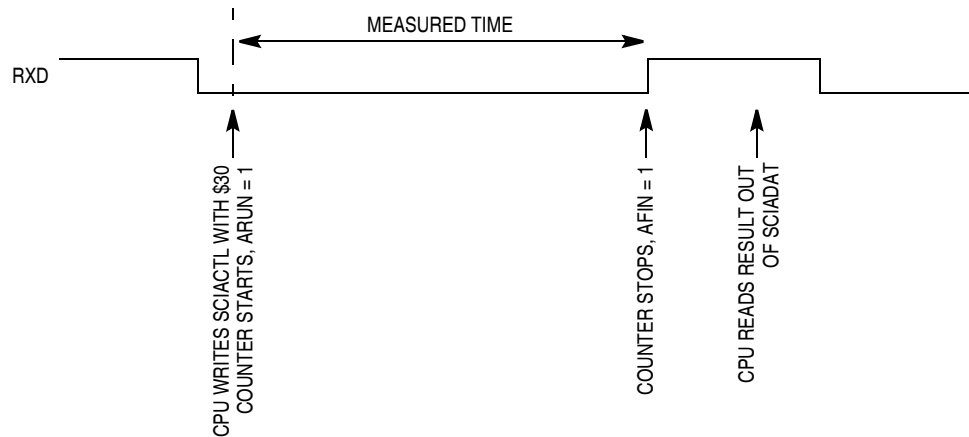
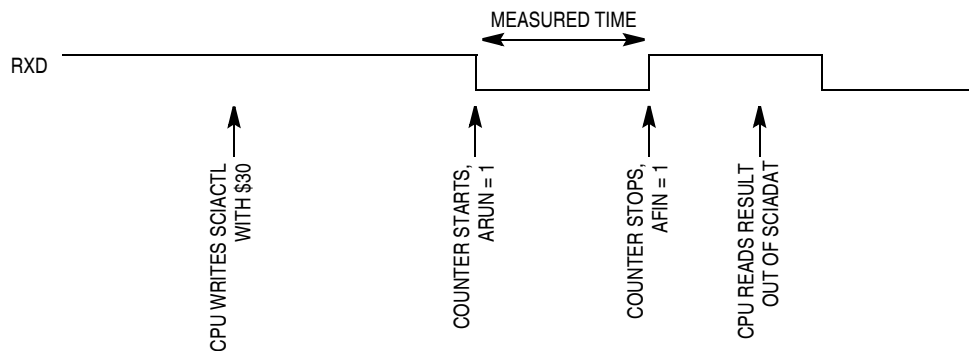

Figure 14-22. Bit Time Measurement with ACLK = 1, Scenario A
Figure 14-23. Bit Time Measurement with ACLK = 1, Scenario B
2. **ACLK = 1** — The counter is clocked with one half of the ESCI input clock generated by the ESCI prescaler. The counter is started when a 0 is detected on RxD (see Figure 14-22). A 0 on RxD on enabling the bit time measurement with ACLK = 1 leads to immediate start of the counter (see Figure 14-23). The counter will be stopped on the next rising edge of RxD. This mode is used to measure the length of a received break.